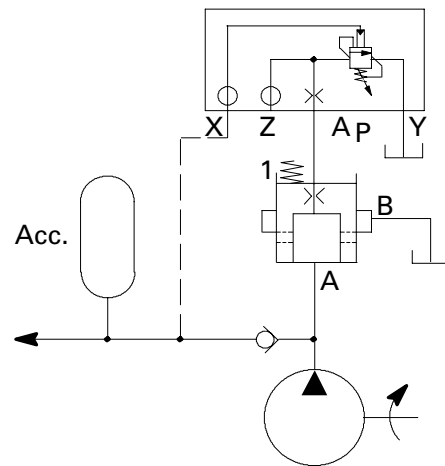

Figure 29
2. Accumulator systems, see Figure 29, where one pump section (usually the smaller) is maintained on load against its own high pressure relief valve, and the other section off/on-loaded according to system demands.